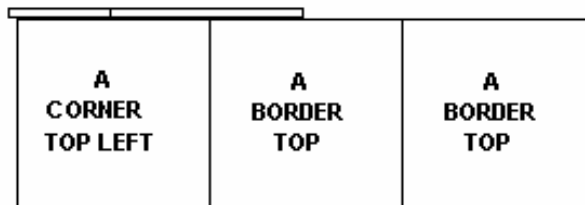

Figure 6
6. Next lock another “A BORDER TOP” to Left side of “A BORDER TOP” (Figure 6).